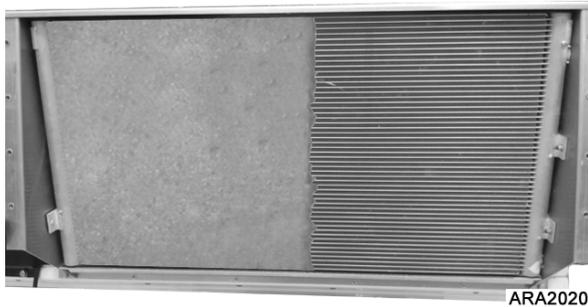

Figure 225: Coil after Wiping Right Hand Side with Cloth
- Take a cloth or towel and wipe the air side of the coil going with the fins, across the tubes. (Results shown in Figure 225.) The coil will clean in a manner similar to the way lint cleans from the lint trap of a household clothes dryer.